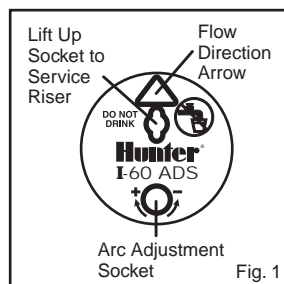
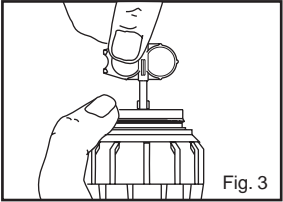

Fig. 1
Fig. 3
1. Insert the key end of the Hunter wrench into the adjustment socket (Fig. 1 and Fig. 3).